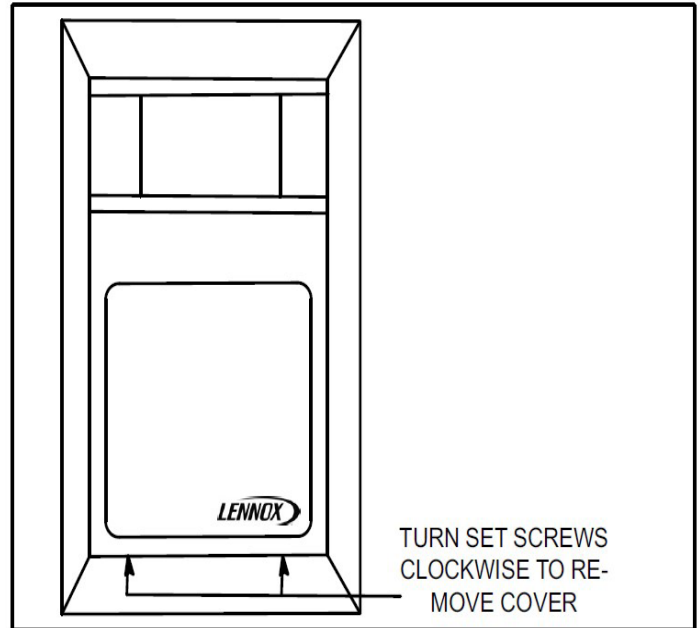

Figure 3. Temperature/Humidity Sensor (A37)
2. Loosen screws and remove sensor cover (see Figure 3).